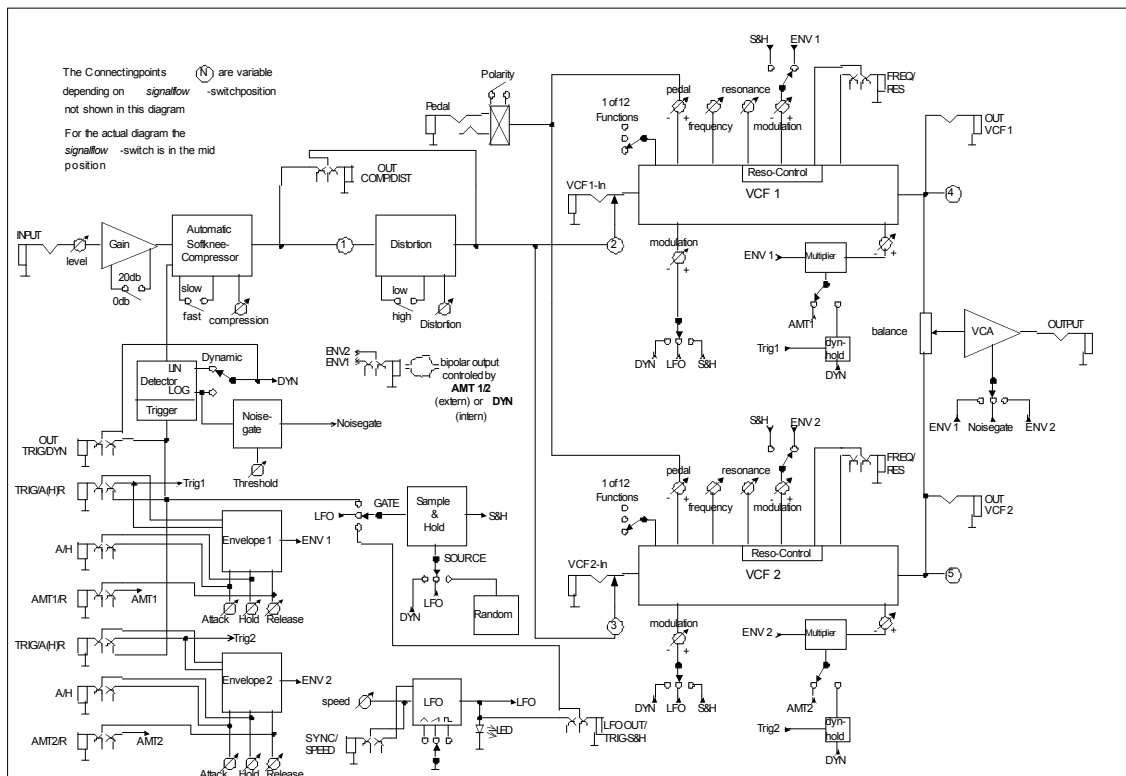
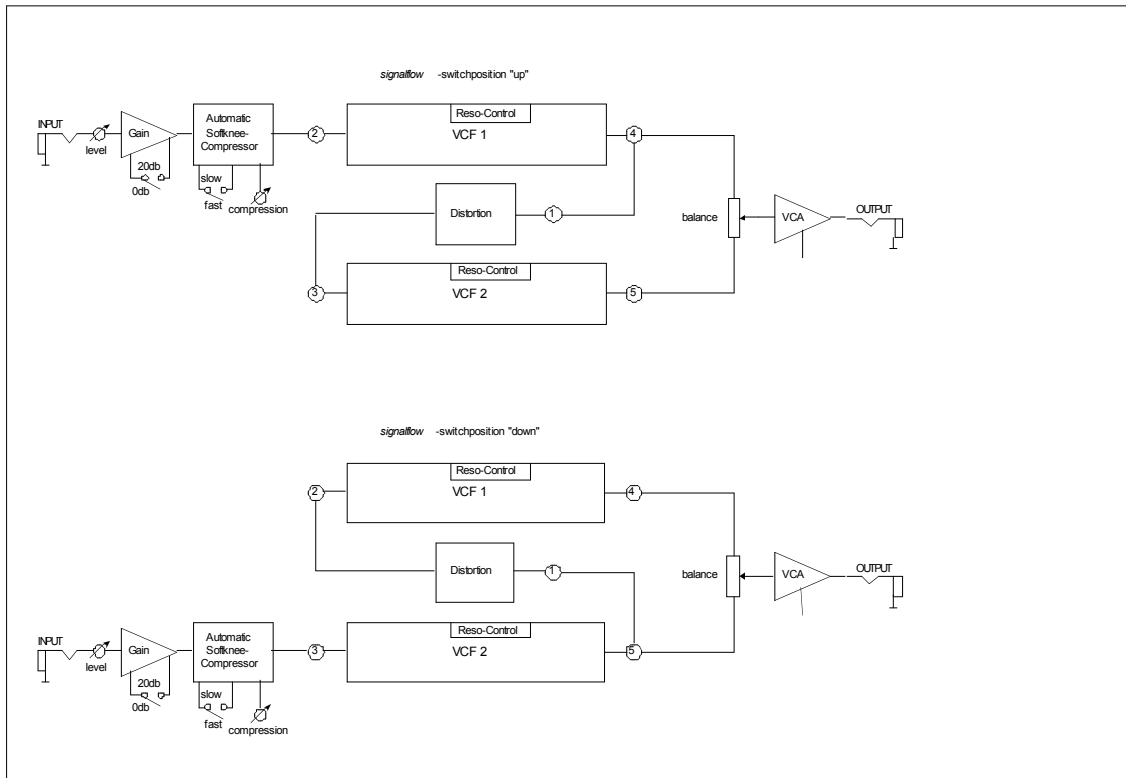

Fig. 9.8.1 Complete circuitry, [signalflow]-sitch in center position
Fig. 9.8.2 Complete circuitry oversimplification, [signalflow]-switch in both remaining positions
Fig. 9.8.1 shows an overview of the complete circuitry including all audio- and modulation paths. Since the internal routing of both filters and the overdrive depends on the position of the [signalflow]-switch (2), the signal flow in the figure corresponds to its center position. Fig. 9.8.2 shows the respective audiopath for both other switch-positions in an oversimplification.